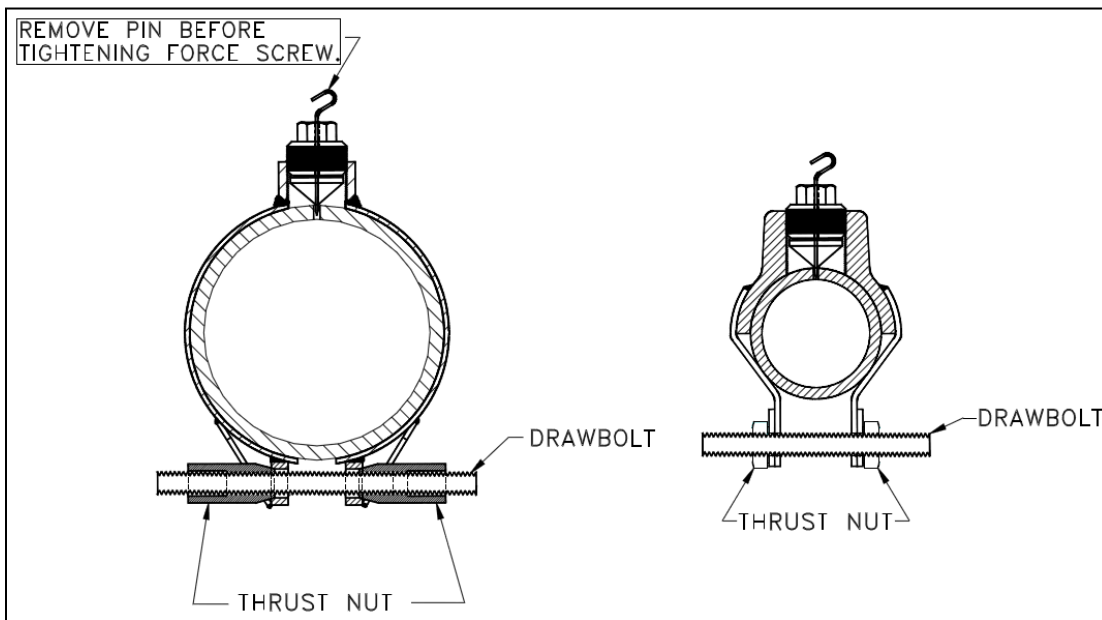

Figure 5
6. Hold the PLIDCO Smith+Clamp firmly in position until the drawbolt and thrust nuts are tightened to the torque value indicated in Chart A. Ensure there is full nut engagement by having equal lengths of the drawbolt protruding from the thrust nuts on either side as shown in Figure 5.
8. Tighten the force screw to a torque value between 70 to 80 ft-lbs (or 95 to 109 Nm). Completed assembly should look as shown in Figure 5, less the pilot pin.